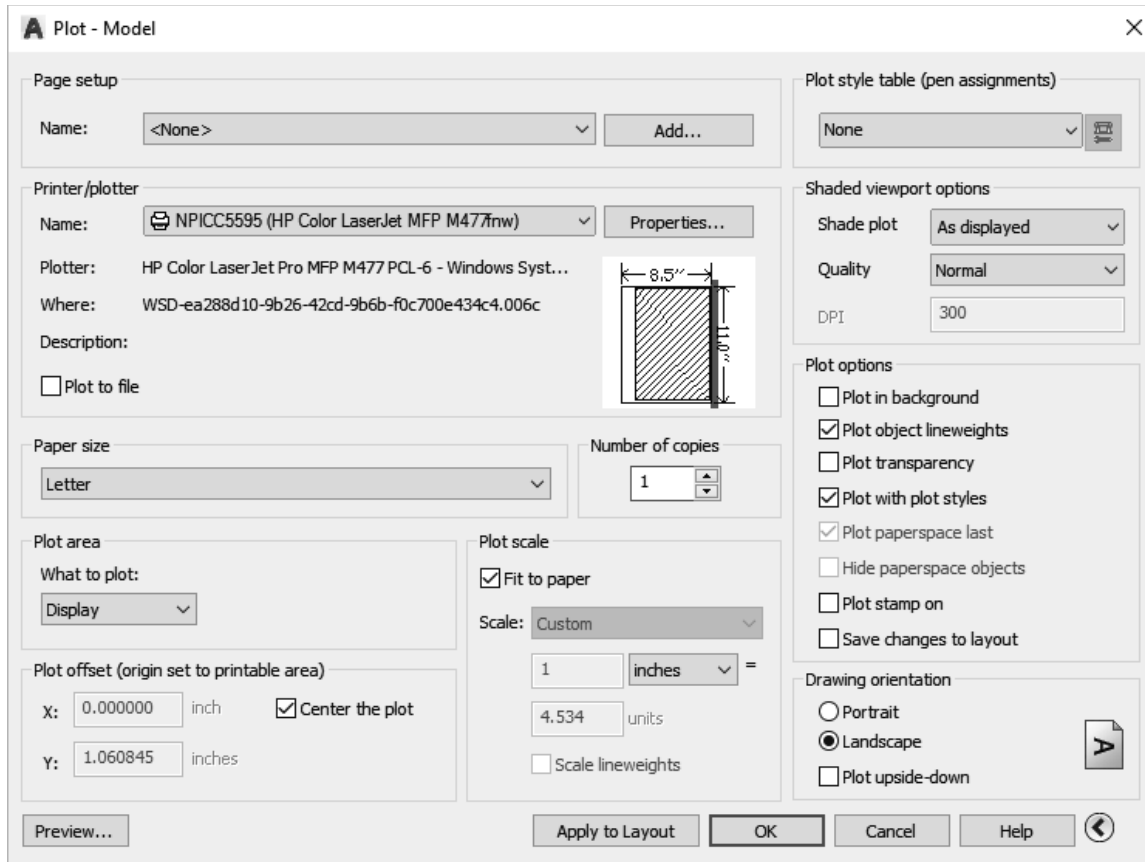

FIGURE 2-5.1 Plot Dialog Box; basic options
You are now in the *Plot* dialog box. This is where you tell AutoCAD what printer or plotter to use, what scale and what size paper, to name a few examples (Figure 2-5.1).
4. Make the following adjustments (Figure 2-5.1):
5. Click the **Less Options** arrow in the lower right corner of the *Plot* dialog box (Figure 2-5.1).